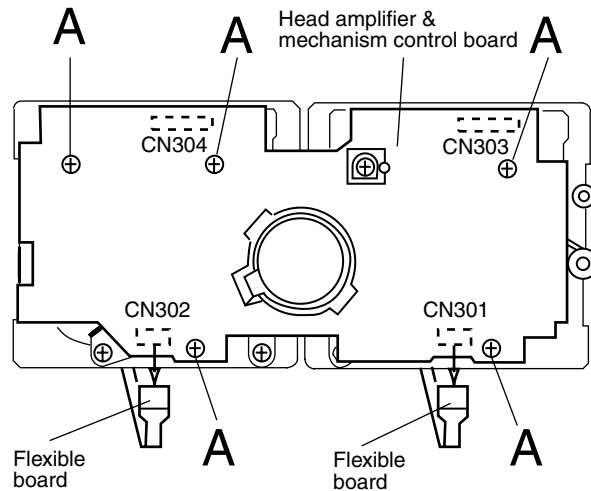

Fig.4
■ Removing the head Amp.and Mechanism Control P.C.Board (See Fig. 4)